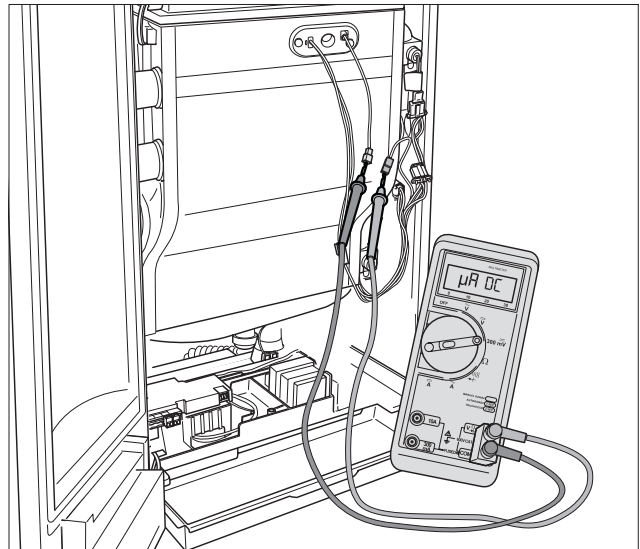

fig. 102 Measuring the ionisation current
- Connect the multimeter in series (fig. 102). Select the μA DC range on the multimeter. The multimeter must have a resolution of at least $1 \mu\text{A}$.